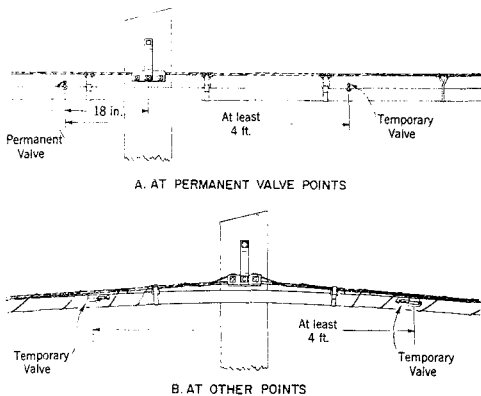

Fig. 5—Typical Arrangement of Valves in Aerial Cable
4.04 Typical arrangements of valves for airflow indicator tests in aerial cable are shown in Fig. 5.